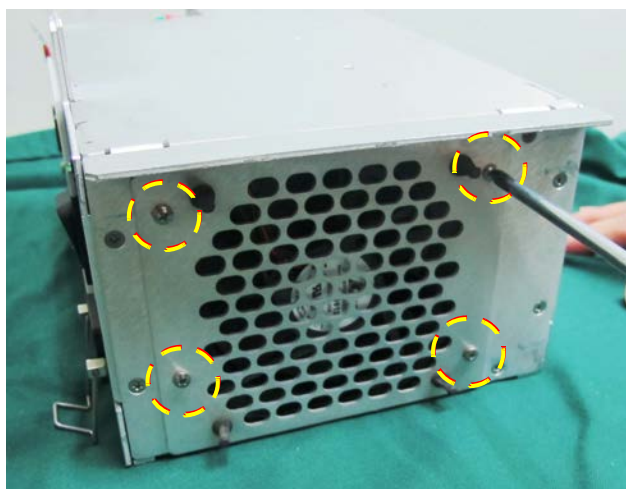

Figure 8-173 AC Box Fan Securing Screws
- 2.) Remove the 4 Fan securing screws from the side of the AC Box - Figure 8-173 below.
- 4.) Place the Fan in position then fasten with the 4 securing screws (previously removed) - Figure 8-173.